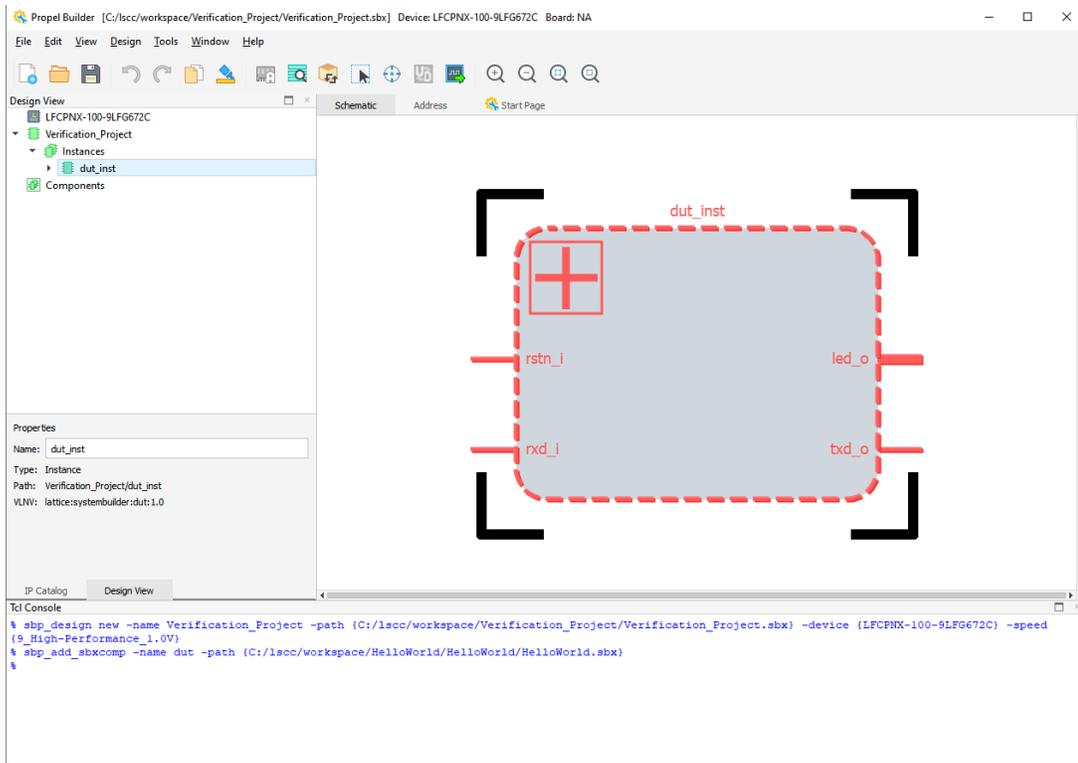

Figure 2.86. Verification Project
- Click **Finish**. A dut_inst of SoC project can be seen in the Schematic view (Figure 2.86).